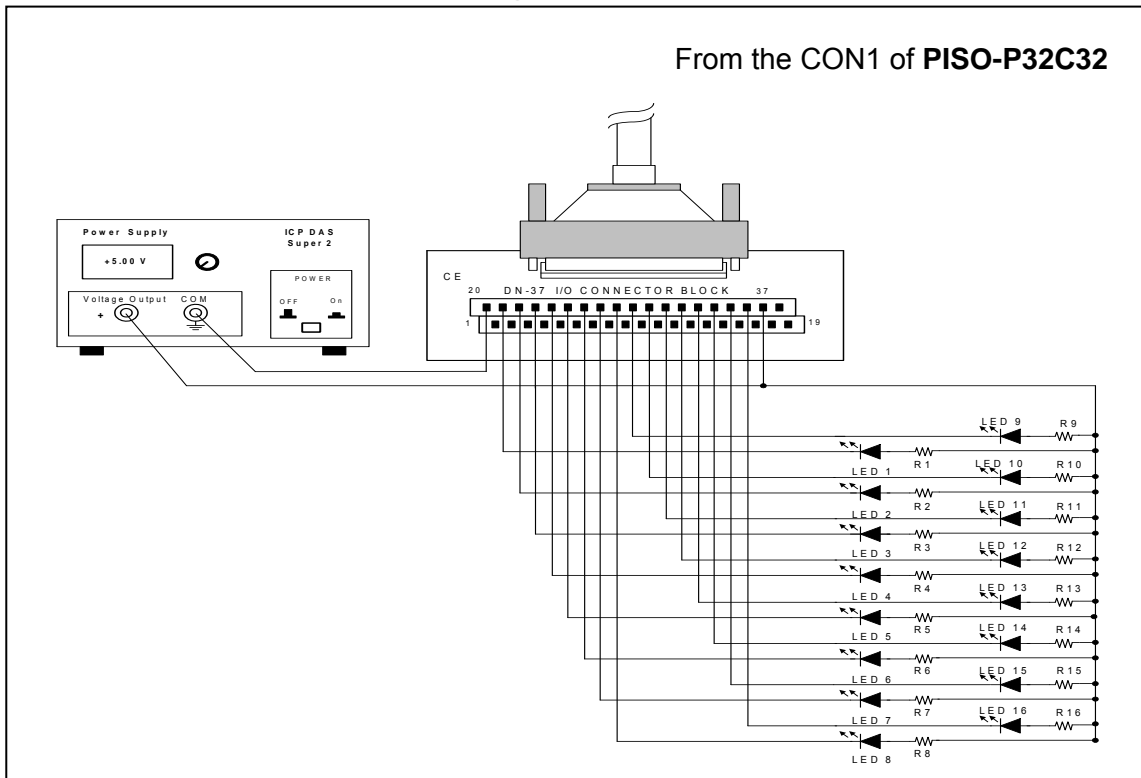

Figure 4-1-2. The circuit diagram of external device 1 for the digital outputs of PISO-P32C32/P32C32U(-5V)/P32S32WU
- Figure 4-1-2(PISO-P32C32/P32S32WU) shows the circuit diagram of external device 1